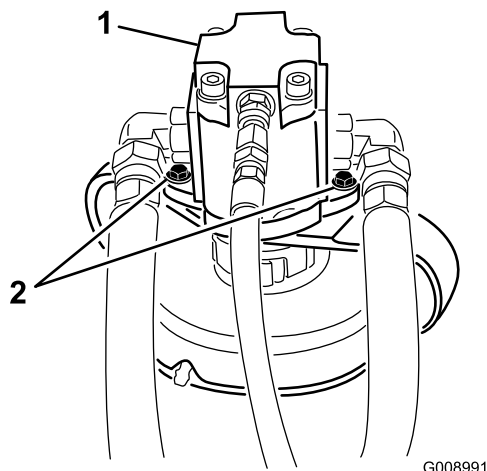

Figure 2
4. Remove the bolts securing the hydraulic motor to the cutting unit (Figure 2). Lift the motor off of the cutting unit and position it away from the cutting unit.
8. Install the hydraulic motor to the cutting unit with the bolts previously removed (Figure 2). Torque the bolts to 27-33 (37-45 N-m).